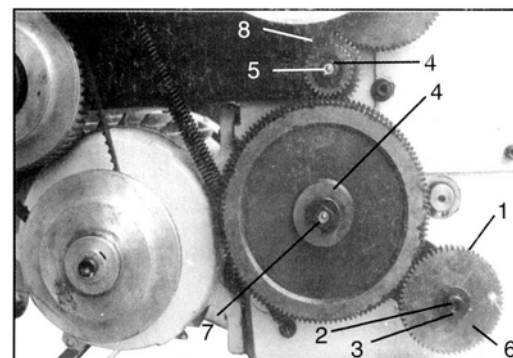

Fig.22
Example of gear set-up to cut 10 T.P.1.(Fig.22)
1. Loose screw(1, Fig.22)
2. Loose bolt(2). Remove washers(3) and gear (6).
3. Loose bolts(7) to allow movement in the center gear position.
4. Loose nuts(5). Remove washer(4) and gear (8).